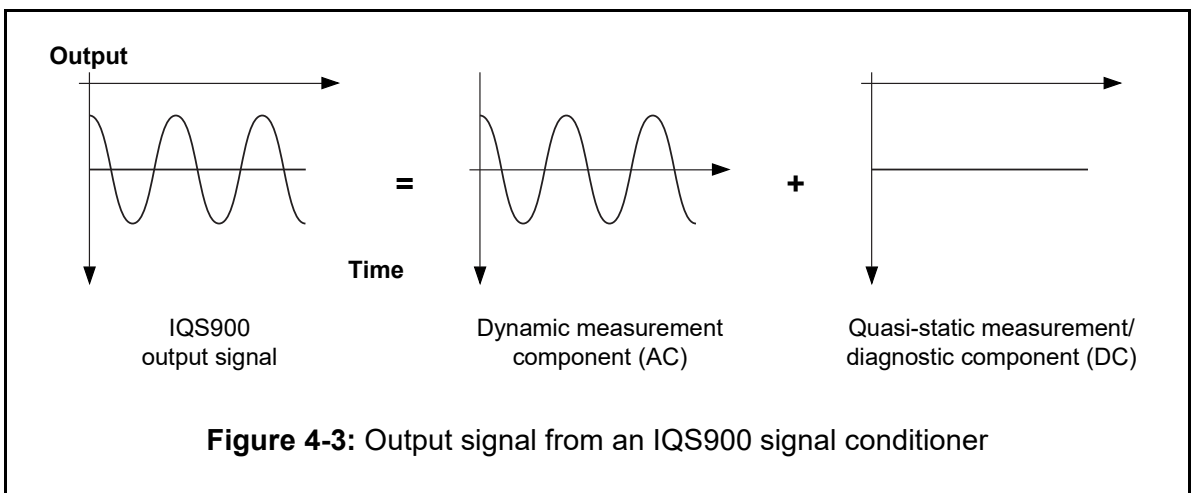

Figure 4-3: Output signal from an IQS900 signal conditioner
As shown in Figure 4-3, the output from an IQS900 signal conditioner in a TQ9xx-based proximity measurement chain is an analogue signal consisting of a dynamic measurement component (AC) and a quasi-static measurement/diagnostic component (DC).